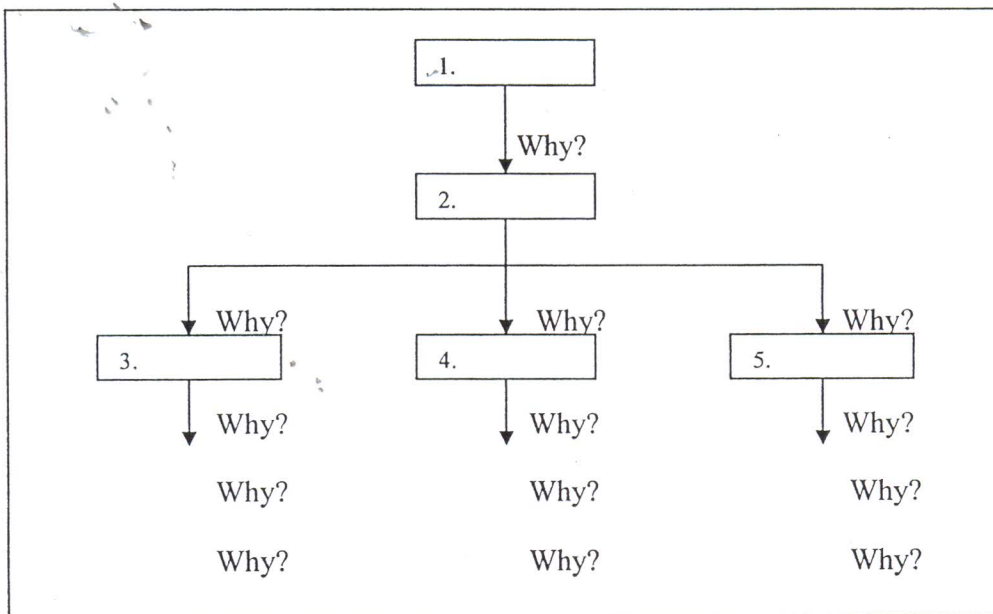

Figure 1: Why-Why Analysis of Motor Failure
Refer to Figure 1, establish Why-why Analysis for Motor Failure.
- a) Arrange the following correctly in the box no.1,2,3,4 and 5 of Why-Why Analysis diagram as shown in Figure 1
Copy the diagram (figure 1) into the answer booklet